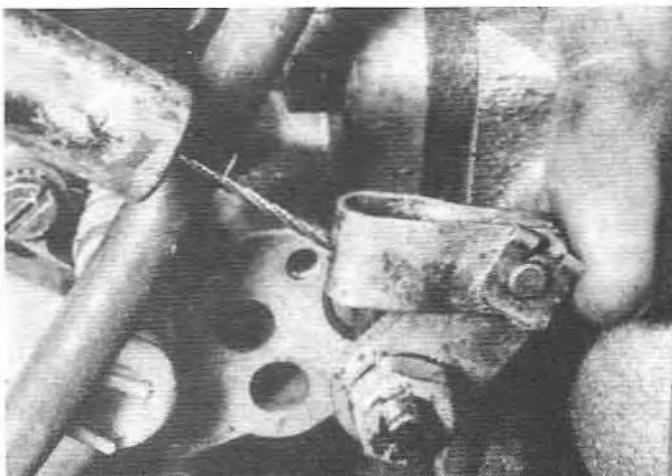

Fig. 3.7 Check that all carburetor controls are free and work through their full field of travel
- 1 Check all controls for smooth and complete action and renew any control rods or frayed cables as necessary (refer to Fig. 3.7).